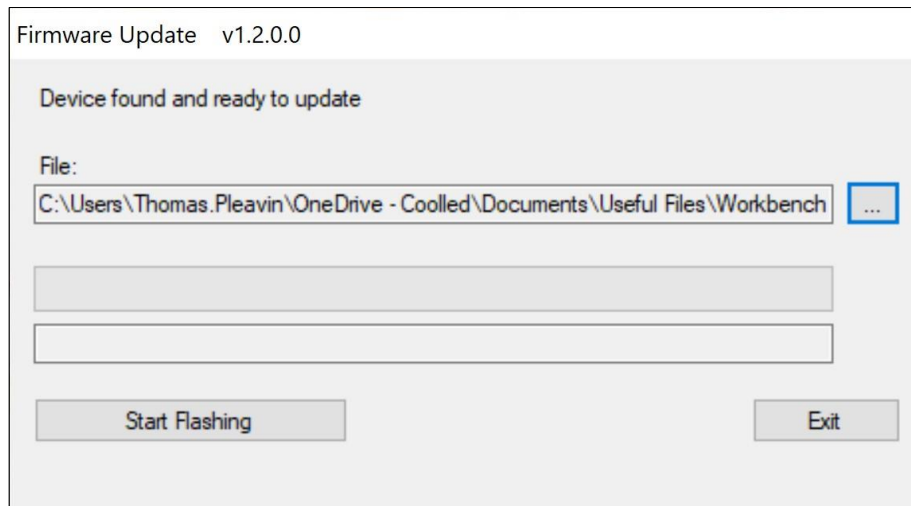

Figure 57 – Firmware update window, ready to click 'Start Flashing'.
12. With the file path populated in the *File* box, click the *Start Flashing* button (Figure 57).